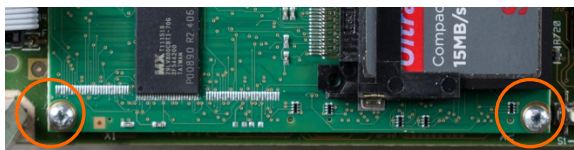

Figure 3-56: ETX Board Mounting Screws
2. Remove the other two screws securing the ETX board in place, shown in Figure 3-56.
3. Taking precautions to avoid static discharge, lever the ETX board up from its connectors, starting at the CF card end indicated in Figure 3-56.